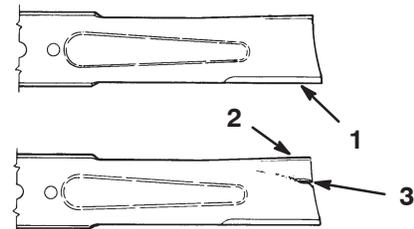

Figure 25
1. Inspect the cutting edges (Fig. 25). If the edges are not sharp or have nicks, remove and sharpen the blades; refer to Sharpening the Blades, page 24.
2. Inspect the blades, especially the curved area (Fig. 25). If you notice any damage, wear, or a slot forming in this area (item 3 in Fig. 25), immediately install a new blade.